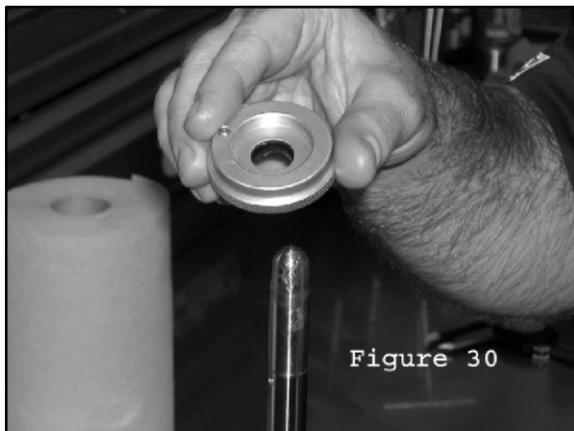

Figure 30
- 64. Lubricate the seal bullet tool with assembly lube. Slide the bearing cap onto shaft with the threaded side facing away from the shaft eyelet. (Fig. 30) This should be done in a single smooth motion to avoid damaging the seal. If seal hangs up on the edge of the shaft, **DO NOT FORCE IT ON.** Remove the bullet tool, with the bearing cap still attached, from the shaft end. (Fig. 32) Remove the bearing cap from the bullet tool, and repeat this step.